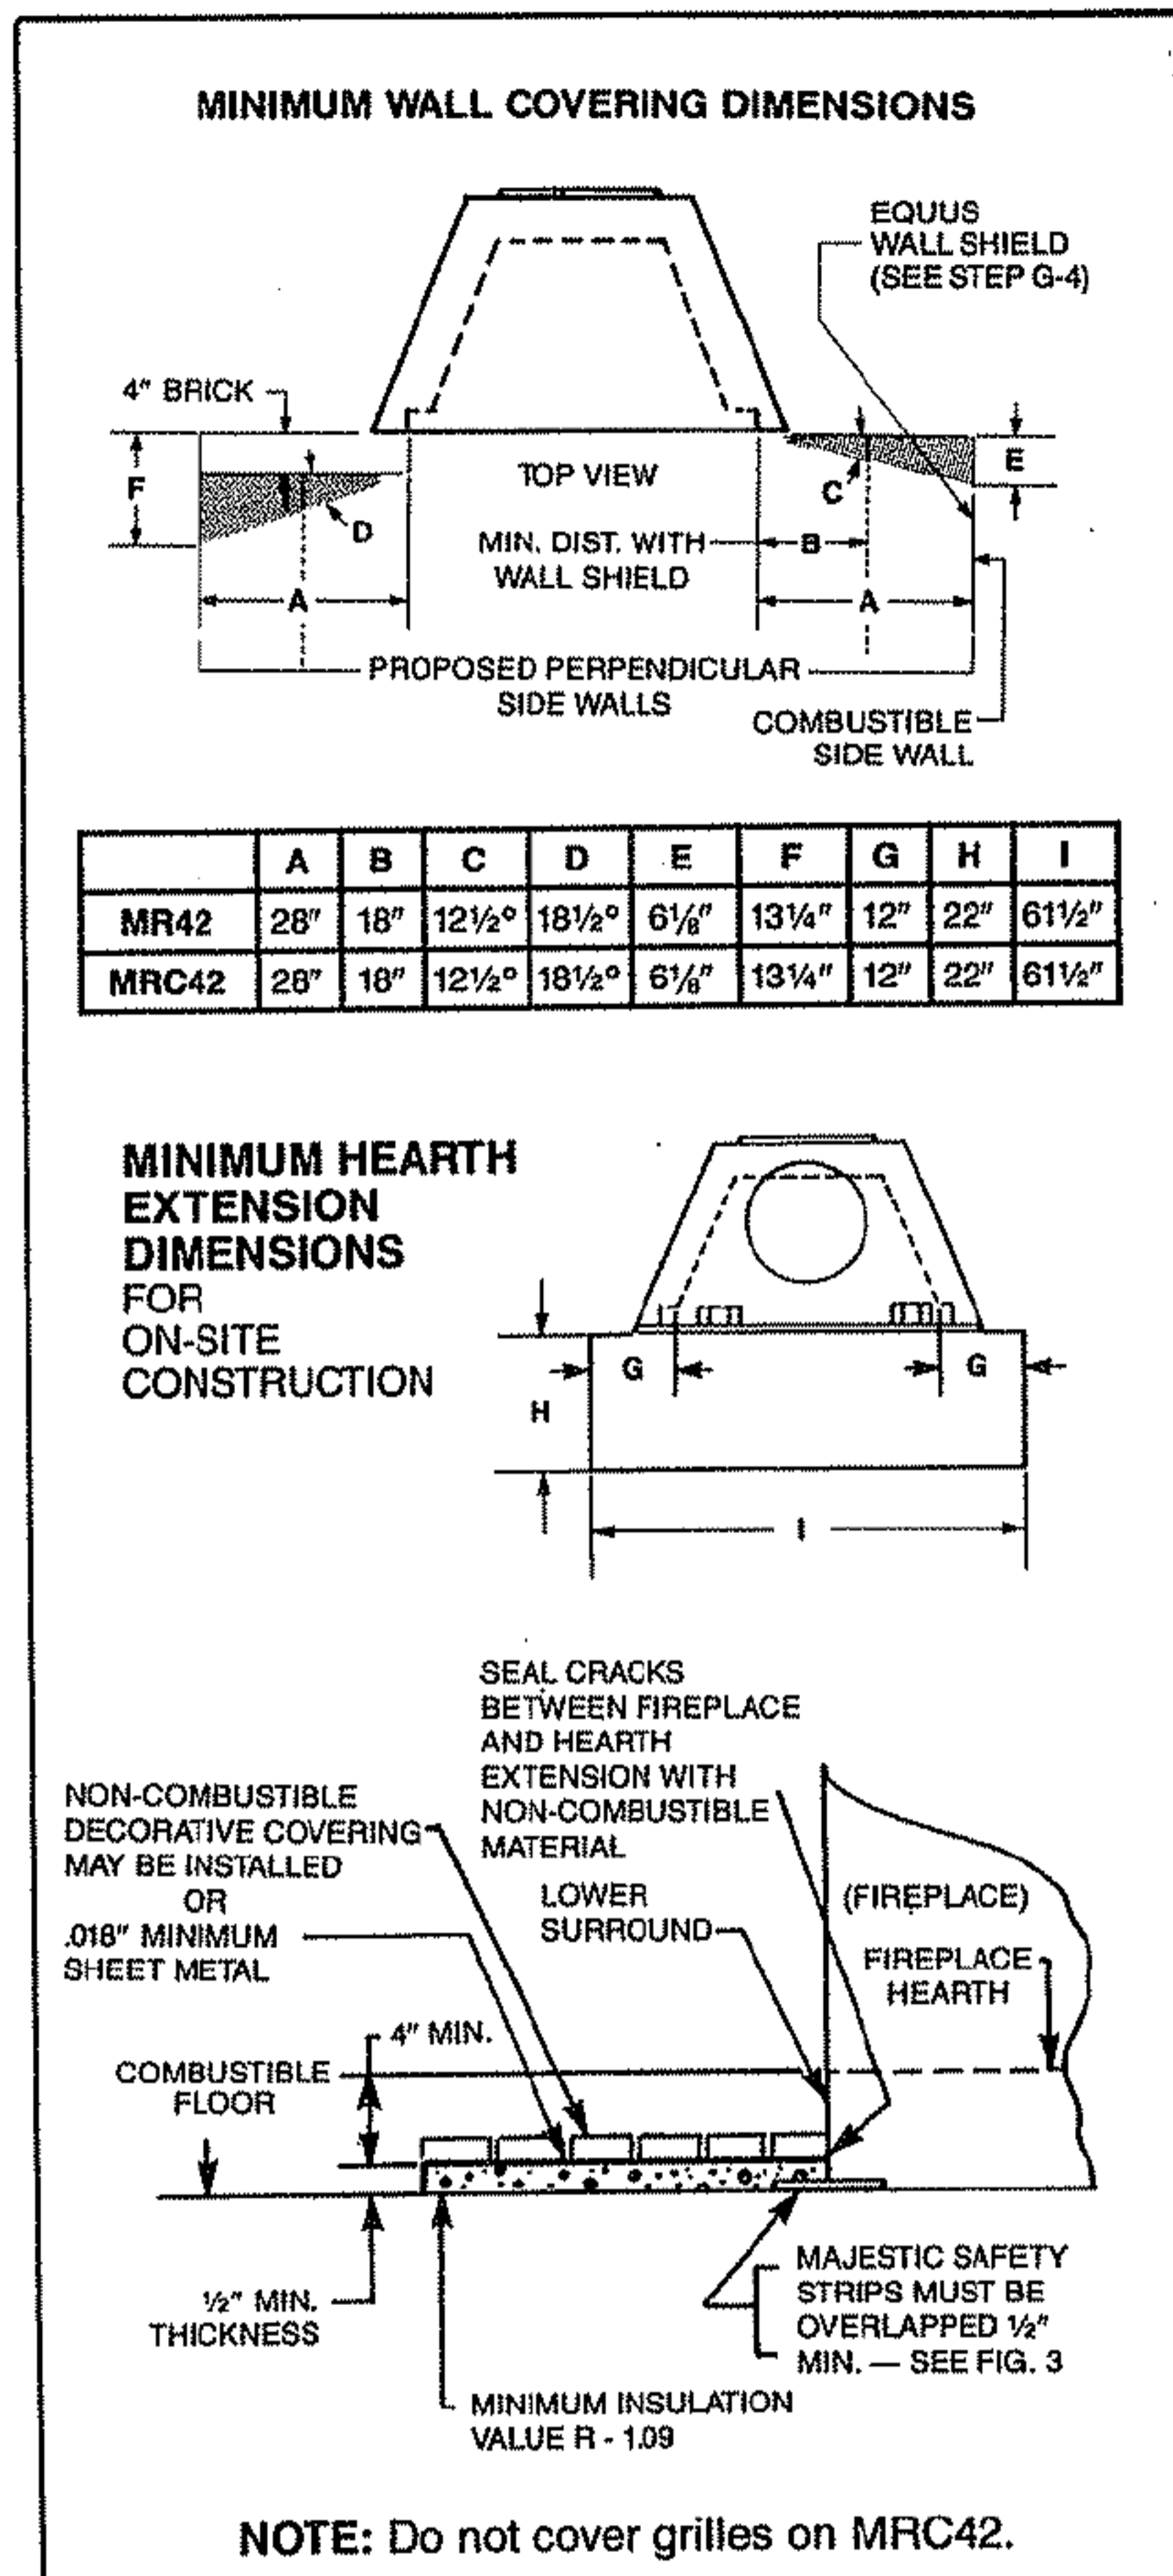

Fig. 23. Protection of adjacent combustible side walls and hearth extension dimensions.
A hearth extension is required to protect combustible floor construction in front of the fireplace. Use a Hearth Extension Model EH42A, or a design built in accordance with Fig. 23.
The hearth extension described in Fig. 23 must be constructed of a rigid insulation with a minimum R value of 1.09. (See Table 4 for examples.) The overall height (above combustible floor), depth and width must be as indicated, with it centered to the fireplace opening. (See Fig. 23.)
The top of the insulation must be covered with a non-combustible decorative covering or a piece of .018" minimum sheet metal, to protect the hearth extension material. (See Fig. 23.)
Secure the hearth extension to the floor to prevent shifting, using trim molding or other similar means at the three (3) outer edges. Seal the crack between the fireplace hearth and the hearth extension with a non-combustible material. (See Figs. 23, 24 and 25.)
HEARTH EXTENSION MUST BE INSTALLED IN ACCORDANCE WITH FIGS. 23, 24 AND 25 AND MUST NOT COVER THE GRILLE OPENING OF THE FIREPLACE.